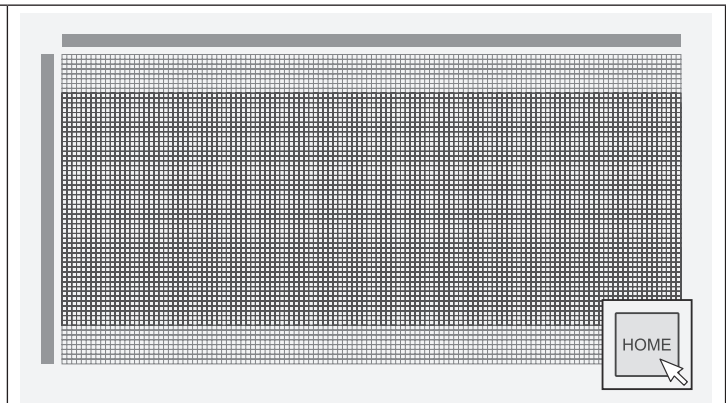

Fig. 91
2. Next click on the home screen icon. The size of the main editing area will change to 128x48 pixels, as shown in **Fig.91**.